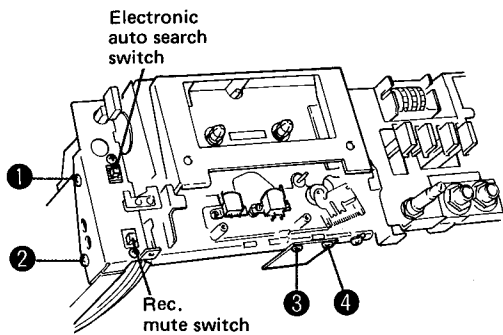

Fig. 8
7. Remove the electronic auto search and rec. mute switches. (See Fig. 8.)
8. Remove the cassette mechanism and tape counter together by removing screws 1 to 4 in Fig. 8.